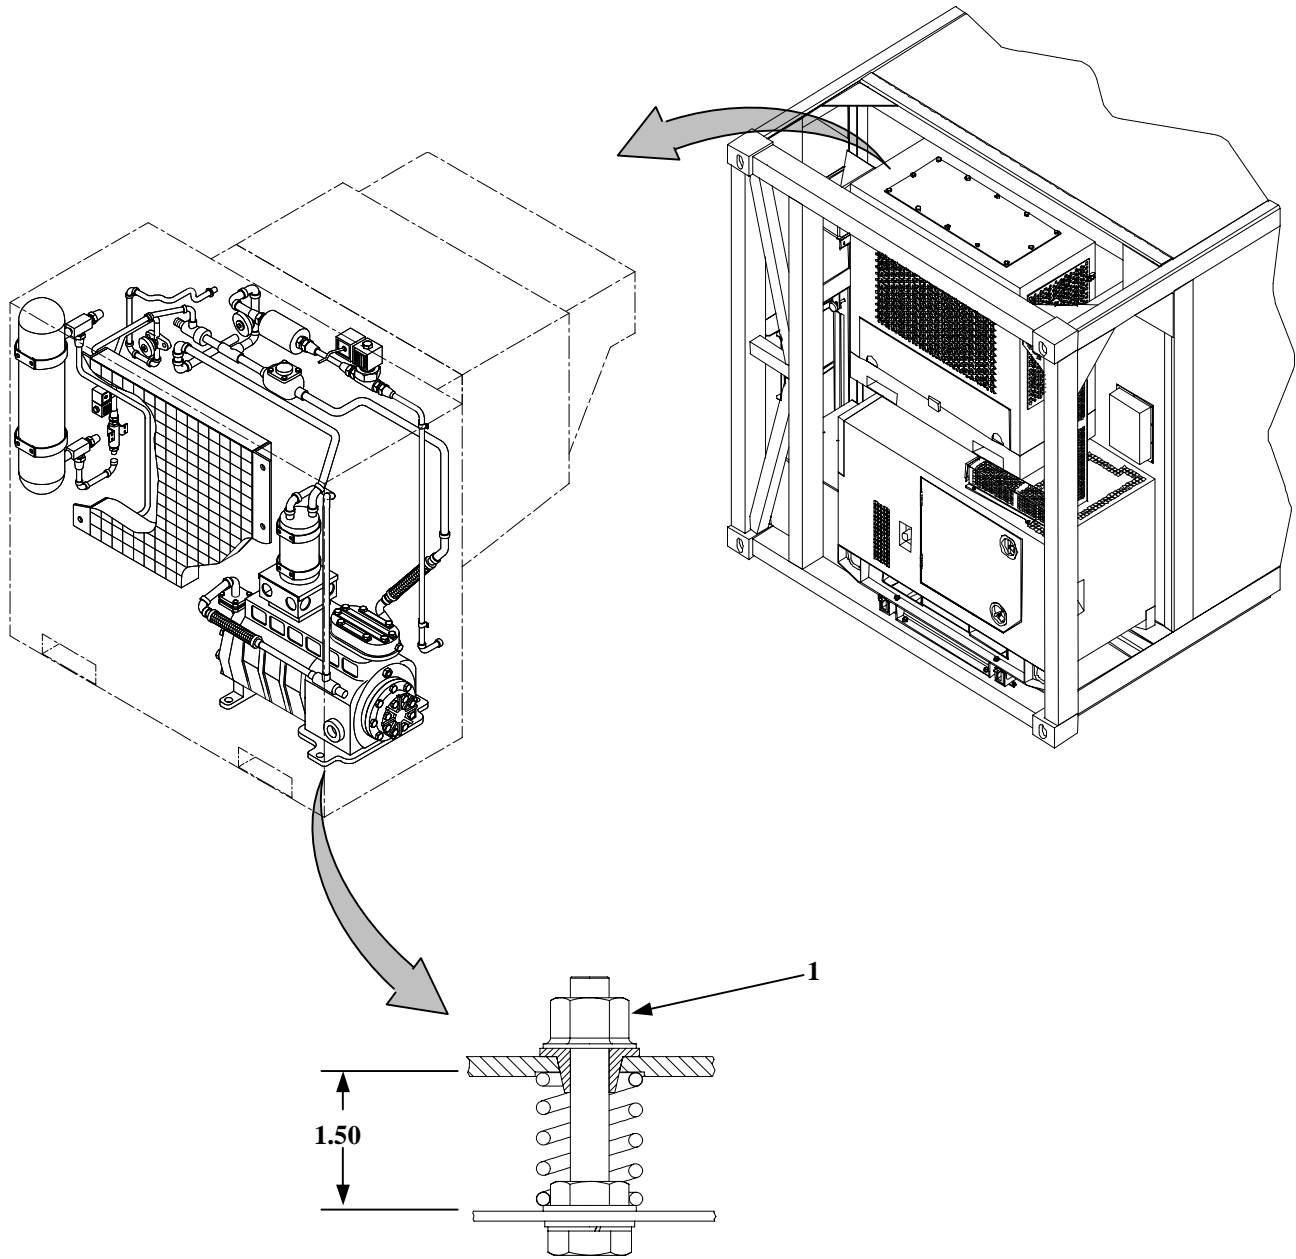

Figure 7. Compressor Mount
5. Loosen four compressor mount locknuts (1, Figure 7) until proper operating space of 1.5 in. (3.81 cm) is reached.